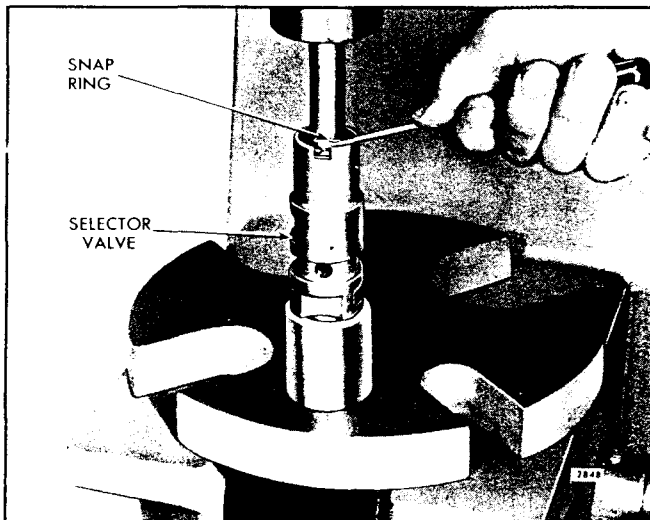

Fig. 20 - Removing Snap Ring from Selector Valve
- d. Place a 3/4" diameter x 2" long round steel rod on top of the valve spring retainer and under the ram of an arbor press as shown in Fig. 20.
- e. Compress the regulator valve spring just enough to permit removal of the snap ring. With the spring compressed, remove the snap ring from the groove inside of the selector valve with a small screw driver as shown in Fig. 20.